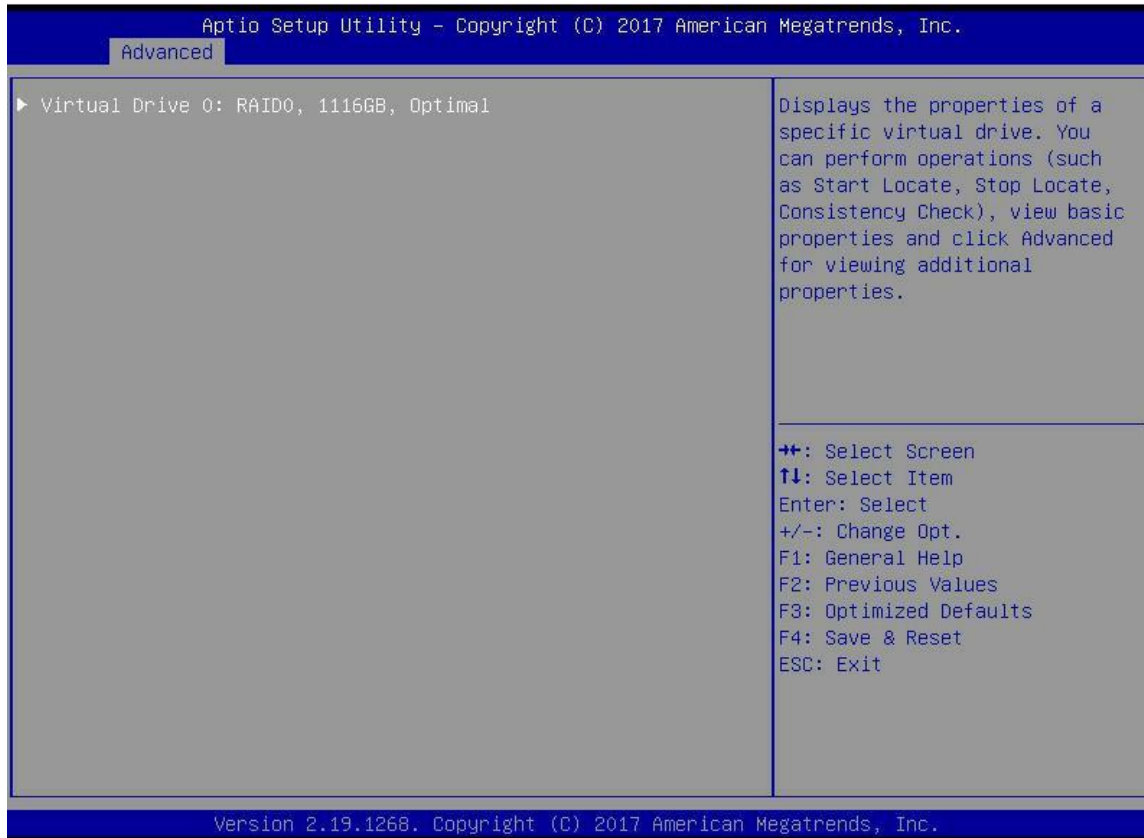

Figure 6-17
- k) Enter the interface shown in Figure 6-17 to see the created raid. Select the raid to view and press enter.